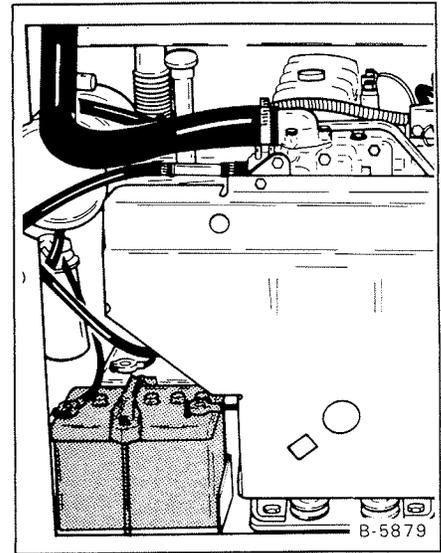

Fig. 1-31 Location of Batteries
(2) Remove the batteries' hold down clamps (Fig. 1-31). Remove the batteries from the engine compartment.